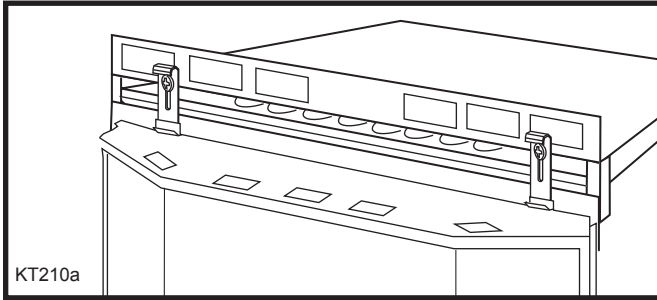

Fig. 34 Hang the window grille or the steel frame onto the lower tabs of the hanging brackets.
5. Install the bay window by hanging it onto the lower tabs of the hanging brackets. (Fig. 34)